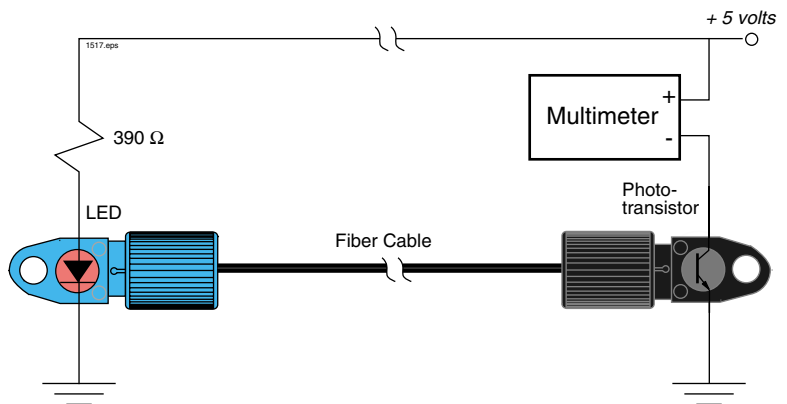

Figure 3.2 Test circuits for measuring cable transmission.
7. Using a solderless breadboard, electrically connect the red LED and phototransistor as shown in the circuit diagram in **Figure 3.2**. Use the device diagrams found in the **Appendix** to identify anode and cathode on the LED, and collector and emitter on the phototransistor. (A radiometer or optical power meter can be used instead of the phototransistor, device mount and multimeter if your lab has this equipment available.)